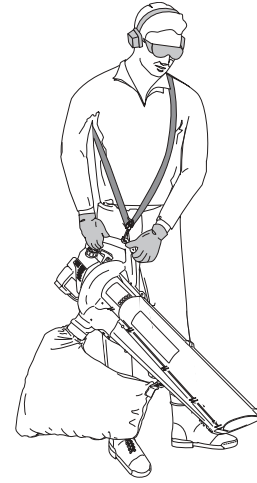

Fig. 8
5. Place the harness over your head and onto your shoulder (Fig. 8).
6. While standing in the operating position (Fig. 8) adjust length to fit the operator's size.